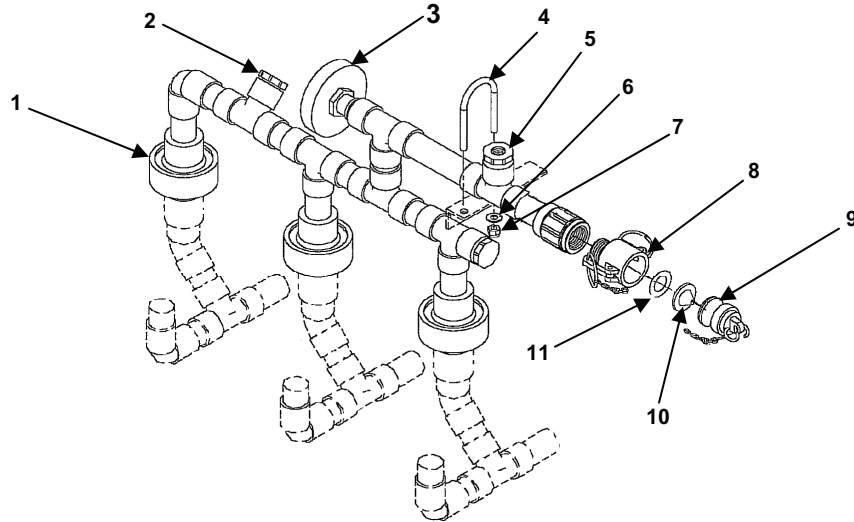

Figure 2. UF Feed Piping.
1. Loosen the three (3) unions (Figure 2, Item 1). Remove the lock nuts (Figure 2, Item 7) and lockwashers (Figure 2, Item 6) from U-bolt (Figure 2, Item 4).
2. Remove the differential pressure gauge tubing from the tee fitting (Figure 2, Item 2).
3. Remove the temperature gauge (Figure 2, Item 3), unthread female camlock (Figure 2, Item 8) and dust plug (Figure 2, Item 9) if necessary.
4. Remove support washer (Figure 2, Item 11) and 30-mesh screen (Figure 2, Item 10) if necessary. Discard 30-mesh screen (Figure 2, Item 10).
5. Remove the feed pressure gauge tubing from tee fitting (Figure 2, Item 5).